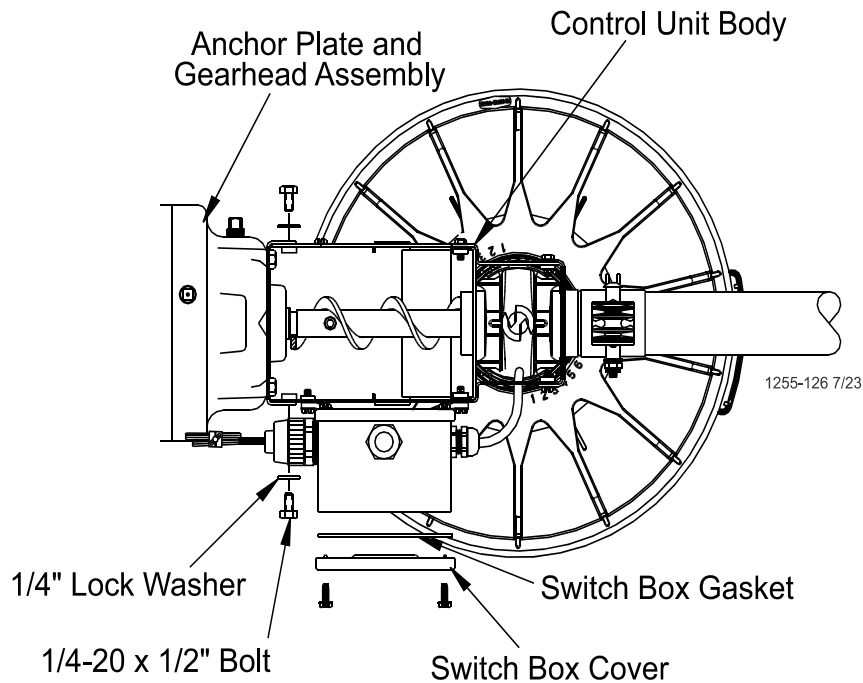

Figure 38. Attaching the Anchor Plate and Gearhead Assembly to the Control Unit Body
7. Attach the Anchor Plate and Gearhead Assembly to the Control Unit Body using the included 1/4" Lock Washers and 1/4-20 x 1/2" Bolts. See **Figure 38**.